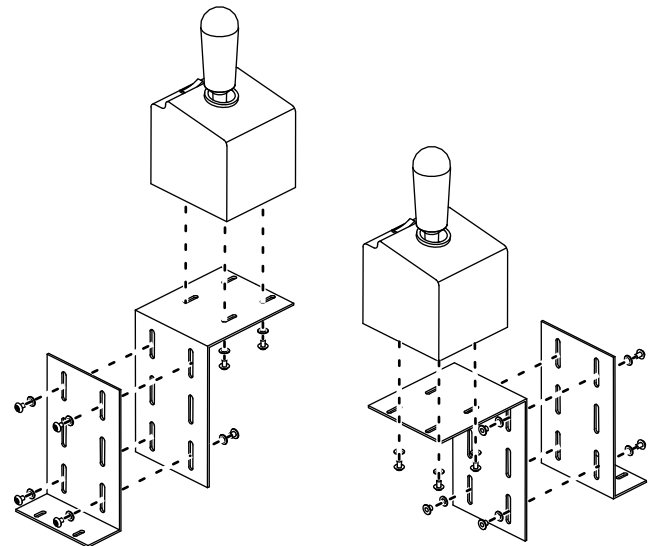

Figure 26
1. Determine the best location and configuration for your controller mounting-bracket; refer to Figure 26 for possible configurations.
2. Secure the mounting brackets to the vehicle and joystick controller using 8 to 10 bolts (#8), washers (#10), and nuts (#8) as shown in Figure 26.